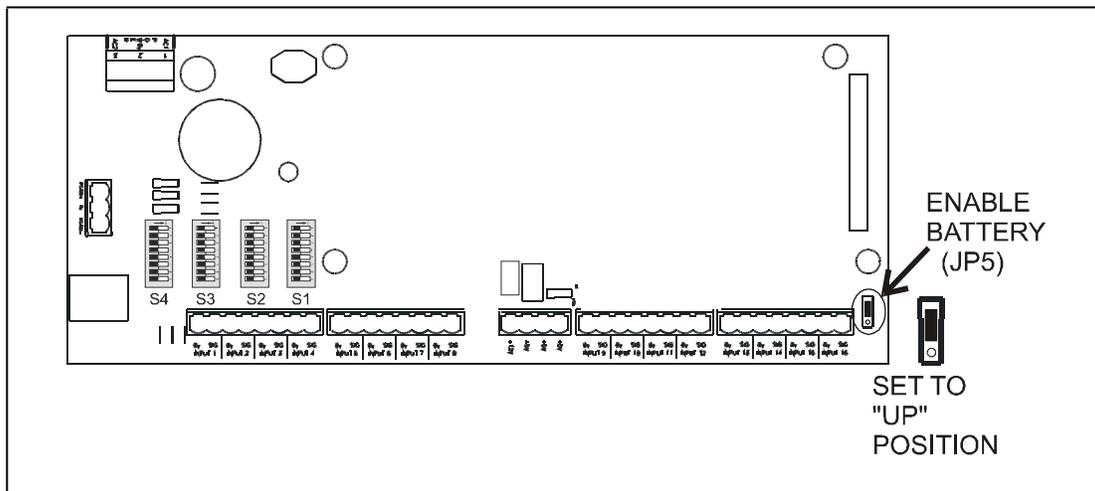

Figure 2-8 - Enable Battery Jumper on MultiFlex Board
Battery-backed memory is enabled by the ENABLE BATTERY jumper (JP5) located at the bottom right corner of the input board layer (Figure 2-8). This jumper is shipped from Copeland in the DISABLE position. The jumper should be set to the ENABLE position (UP) before installation. To preserve battery life, when storing the MultiFlex RTU, the jumper should be set to the DISABLE position.